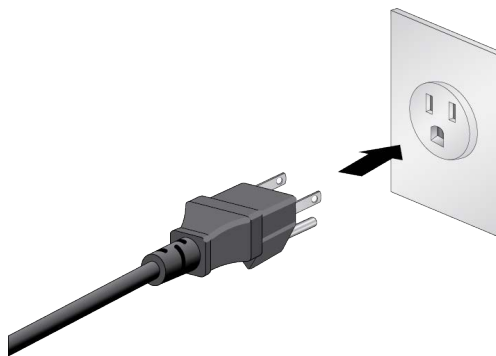

Figure 39. Connecting the Power Cord to an AC Power Source
4. Connect the power cord to an appropriate AC power source. Refer to Figure 39 on page 108.